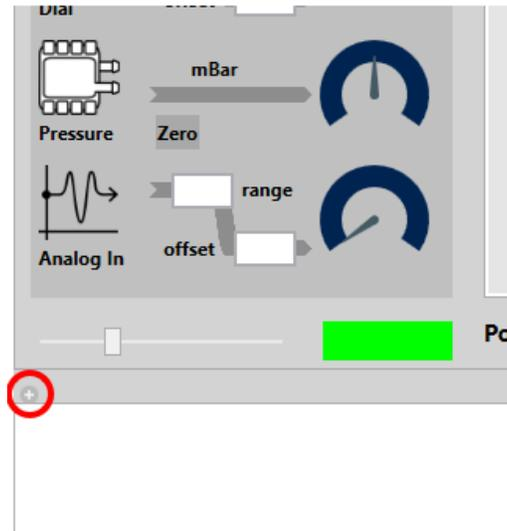

Figure 41. Creating a plot window.
- Click on the “+” button to create a plot tab as shown in Figure 41.